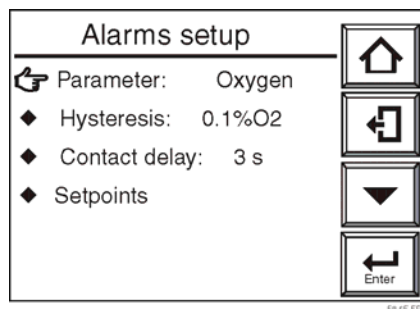

Figure 8-5 Alarms Setup Display
3. Select the Alarm setup in the “Commissioning” (Setup) display screen. The Alarms setup display shown in Figure 8-5 appears.